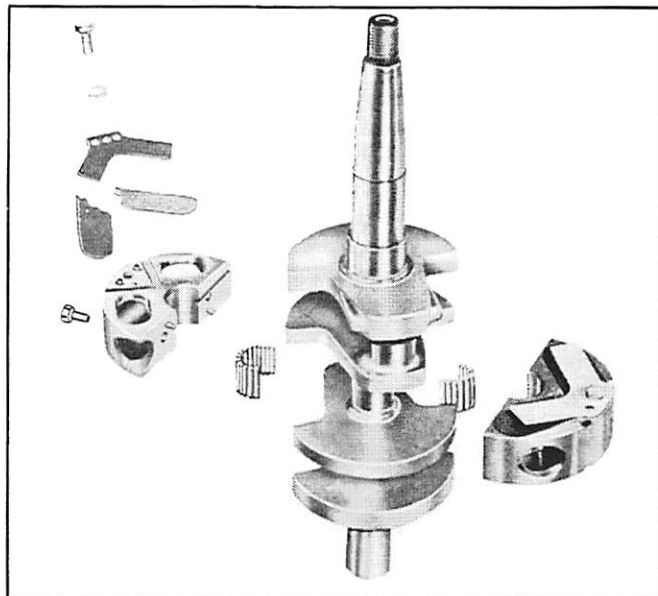

Figure 8. Crankshaft and Center Main Bearing Assembly
10. Remove center main bearing by removing 2 Phillips head screws in bearing with Screwdriver (91-24279). (Figure 8)